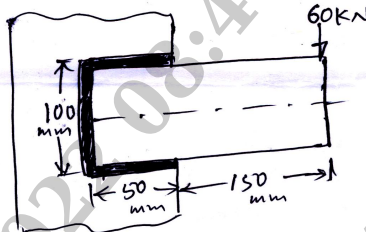

Fig.Q8(a)
- 8 a. A welded connection as shown in Fig.Q8(a) is subjected to an eccentric force of 60 kN in the plane of the welds. Determine the size of the welds, if the permissible shear stress for the weld is 100 N/mm^2 . Assume static conditions.